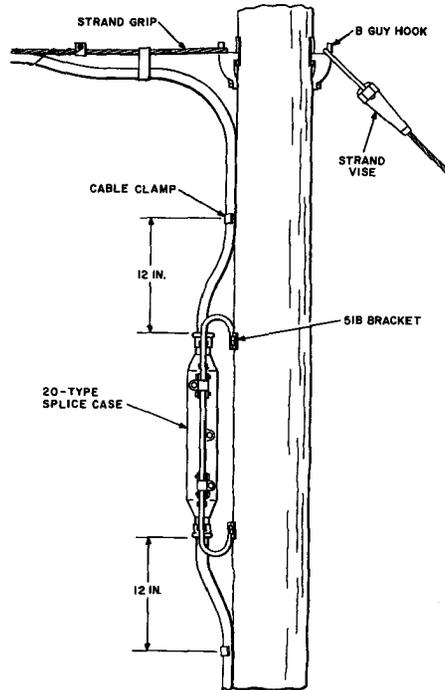

Fig. 5—Clamping Cable to Pole at Junction
3.03 A typical installation of a 20-type splice case pole mounted on a 51B bracket is shown in Fig. 5.